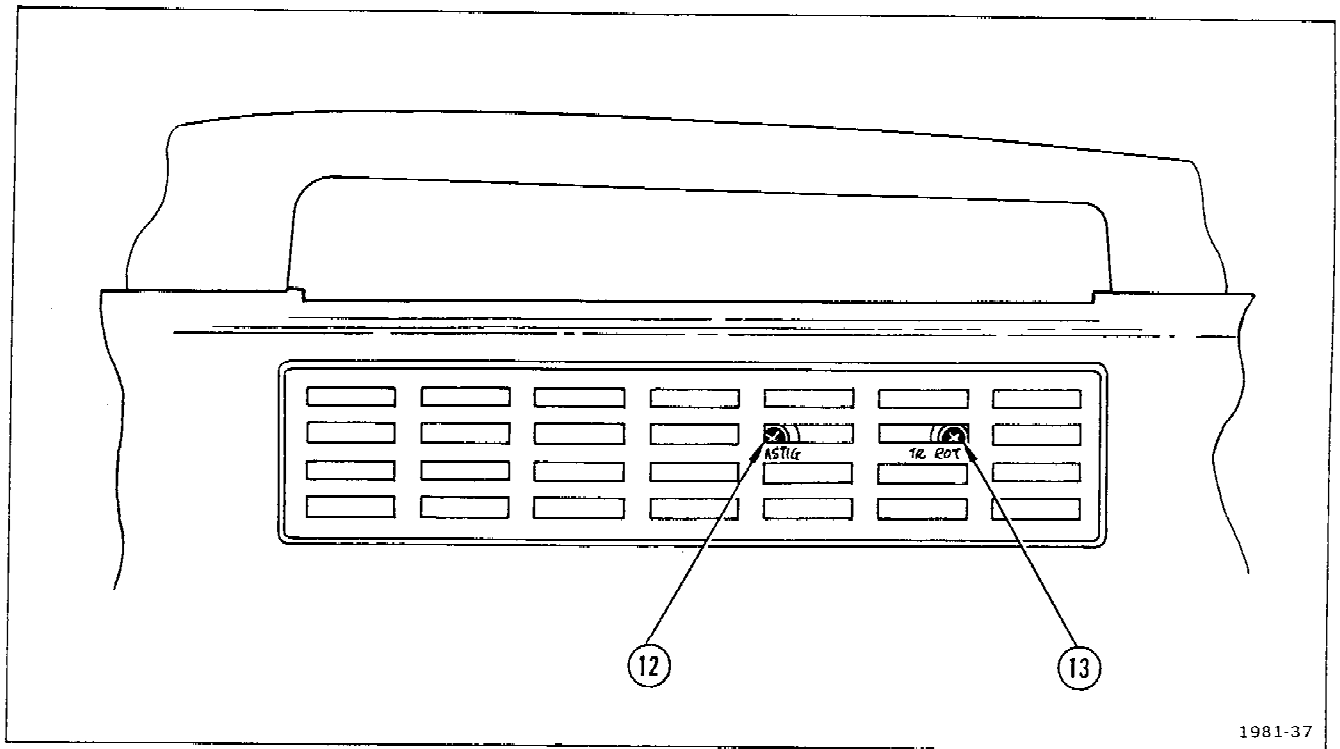

Fig. 2-2. Left side of cabinet.
- ⑥ **INTEG**—When held down, stores repetitive signals too fast to store normally by allowing a charge to build up on the crt storage target before the signal is stored.
- ⑦ **ENHANCE LEVEL**—Increases the stored writing rate to at least 250 cm/s. Automatically switches on in SINGLE SWP.
- ⑧ **ON-OFF**—Push-push switch turns the instrument power on (button in) and off (button out). (In some versions this switch is labeled POWER.)
- ⑨ **POWER**—Indicator lamp lights when ON-OFF button is depressed to ON (in) position and applied power input voltage does not vary more than about 10% from the value indicated by the 120 V/240 V and HI/LO voltage selector switch settings. When applied power input voltage varies more than about 10% (either high or low) from the selected value, the lamp will blink. (In some versions this lamp is labeled ON.)
- ⑩ **PROBE ADJ**—Provides a square-wave output of approximately 0.5 V (negative-going with respect to ground) at approximately 1 kHz, for compensating voltage probes.
- ⑪ **Internal graticule**—Eliminates parallax. Risetime amplitude and measurement points are indicated at the left edge of the graticule.
**Left Side of Cabinet (Fig. 2-2)**
- ⑫ **ASTIG**—Screwdriver adjustment used with FOCUS control to obtain a well-defined display. Requires little or no adjustment once set.
- ⑬ **TR ROT**—Trace rotation screwdriver adjustment. Aligns trace with the horizontal graticule lines.